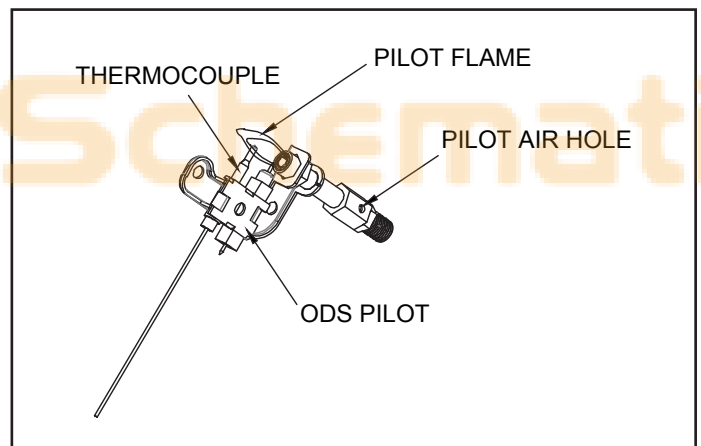

Fig. 5 - Pilot Assembly
Always keep the heater area clear and free from combustible materials, gasoline and other flammable vapors and liquids. Keep the vent areas (slots in the bottom and the top at the front of heater) clear at all times so combustion air and ventilation air is not obstructed. Visually inspect the pilot flame burner periodically during use so combustion air and ventilation is not obstructed. The pilot flame should be blue in color (not yellow) and will extend beyond the thermocouple. The flame will surround the thermocouple just below the tip, see Figure 5. A slight yellow flame may occur where the pilot flame and main burner flame meet. The burner(s) should be bright orange (with a slight blue color around the border, a red-orange haze that is visible on the burner is acceptable) and without a noticeable flame. A blue flame that rolls out at the top indicates an accumulation of dust, lint or spider webs inside the main burner assembly. If the pilot is yellow or the burner has a noticeable flame, cleaning may be required. Use the following procedure to inspect main burner assembly. It is necessary to periodically check the burner(s) orifice and burner venturi tube to make sure they are clear of insects/nests or spider webs that may accumulate over time. It is strongly recommended that these maintenance instructions be performed annually. A clogged tube can lead to a fire.
6. Inspect and clean pilot (mounted to bracket) by using a vacuum or apply air pressure through the holes in the pilot indicated by the arrows in Figure 5.